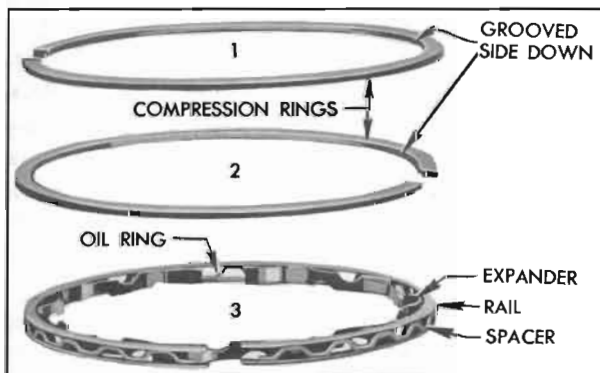

Figure 2-35—Compression and Oil Rings
7. Remove compression rings using Ring Expander KMO-232. Then remove oil ring by removing the two rails, spacer, and expander which are separate pieces in each piston third groove. See Figure 2-35.
7. Install compression rings in second and first grooves of each piston. Be sure to place the grooved or beveled side of each ring toward bottom of piston. See figure 2-35.